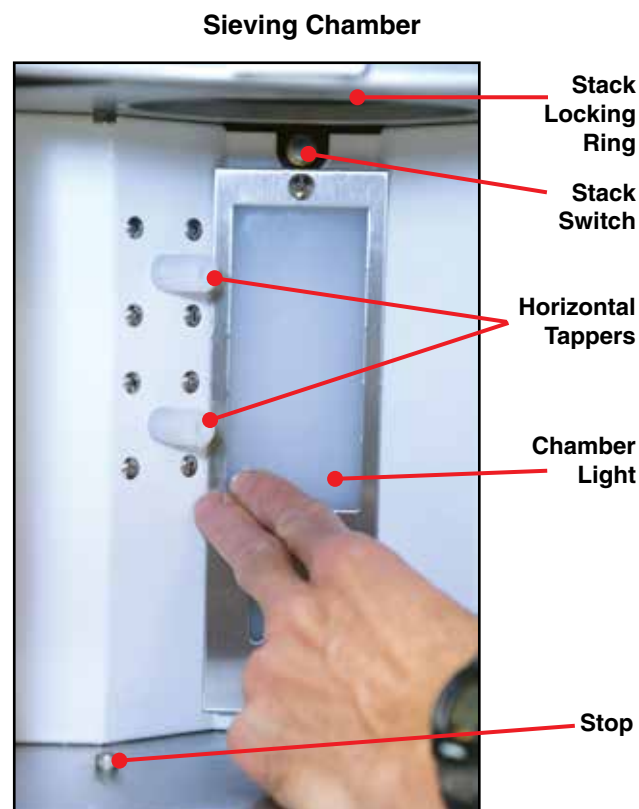
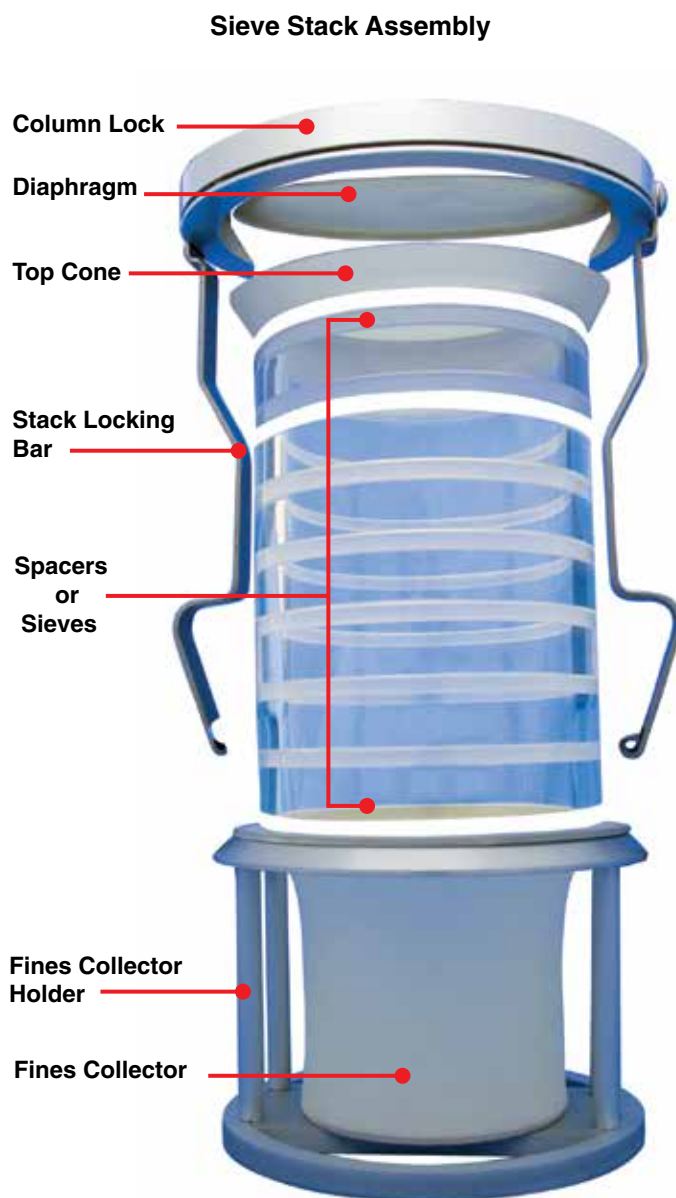

Figure 3.0
Figure 5.1
To access the Sieving Chamber (see Figure 3.0), lift the sliding door and lock the Sieve Stack Assembly (see Figure 5.1) by pulling down on the Sieve Stack Locking Bars until they snap onto the top ring of the Fines Collector Holder. Pull the Assembly out to remove it from the AutoSiever. The Diaphragm and Fines Collector are part of the Sieve Stack Assembly, but are packaged separately for shipping.
- A. Select desired sieves for testing. Capacity of Sieve Stack Assembly (Figure 5.1) is seven standard sieves or three precision sieves. When using fewer sieves, spacers must be added to maintain correct height of Sieve Stack Assembly. Mixing of wire-woven and precision sieves in the same stack is not recommended.